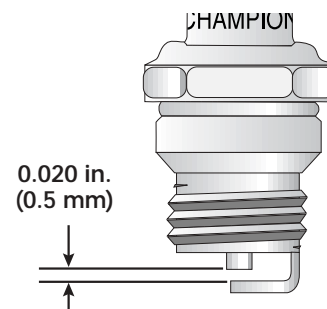

Fig. 44
3. Replace a cracked, fouled or dirty spark plug. Set the air gap at **0.020 in. (0.5 mm)** using a feeler gauge (Fig. 44).